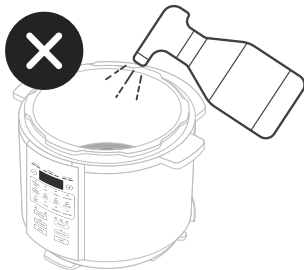

Figure 10.1
- **Do not** spray water inside the cooker. **[Figure 10.1]**